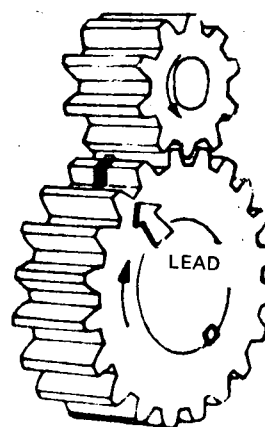

Fig. 2
- a) Install the lead between the flanks of the teeth thus: (Fig. 2).